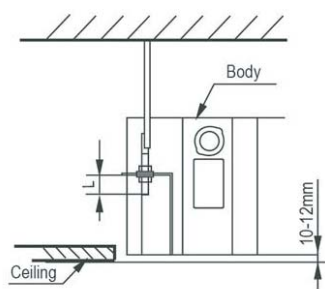

fig.6
- Adjust the position to ensure the gaps between the body and the four sides of ceiling are even. The body's lower part should sink into the ceiling for 10~12 mm (refer to fig.6).
- In general, L is half of the screw length of the installation hook.(refer to fig.6)